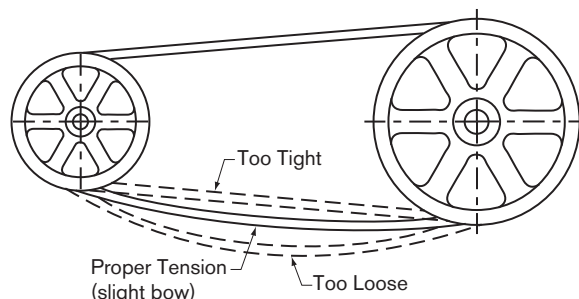

Figure 4
15. Unlock power to the motor and run the blower for eight hours. The belts should be running as shown in **Figure 4** below. If not, repeat steps 13 and 14 after you have turned off and locked out power to the motor.
- 20 ☐ ☐ ☐ Unlock power to the motor and run the blower for 8 hours. The belts should be running as shown in Figure 4. If not, repeat steps 18 and 19 after you have turned off and locked out power to the motor.